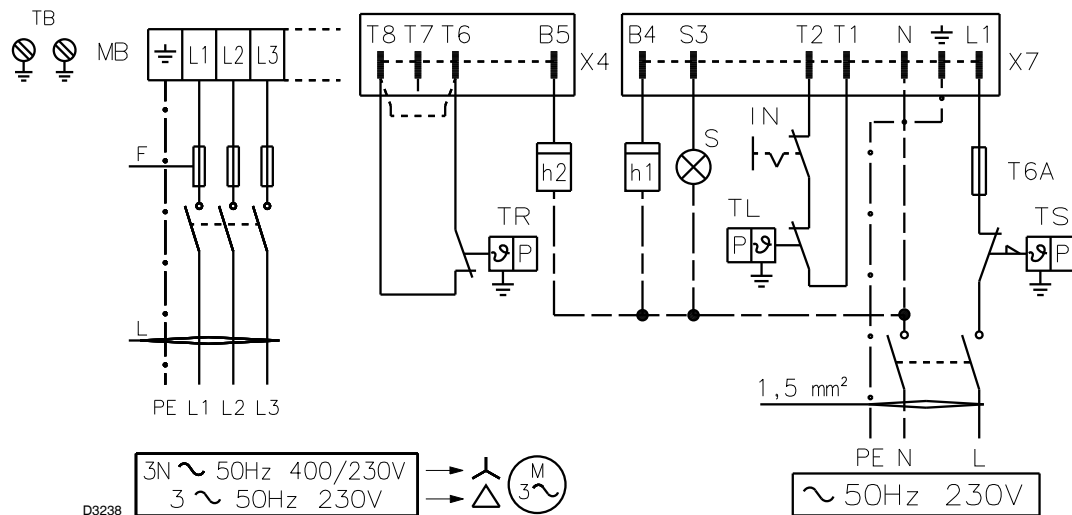

Fig. 20
Fuses and cables cross-section (Fig. 20), see Tab. D.
Alternatively, if single stage operation is required, instead of control device TR install a jumper lead between terminal T8 and T6 (Fig. 20).
Key to layout (Fig. 20)
- The burners are factory set for two-stage operation and must therefore be connected to control device TR. Alternatively, if single stage operation is required, instead of control device TR install a jumper lead between terminals T8 and T6 (Fig. 20).